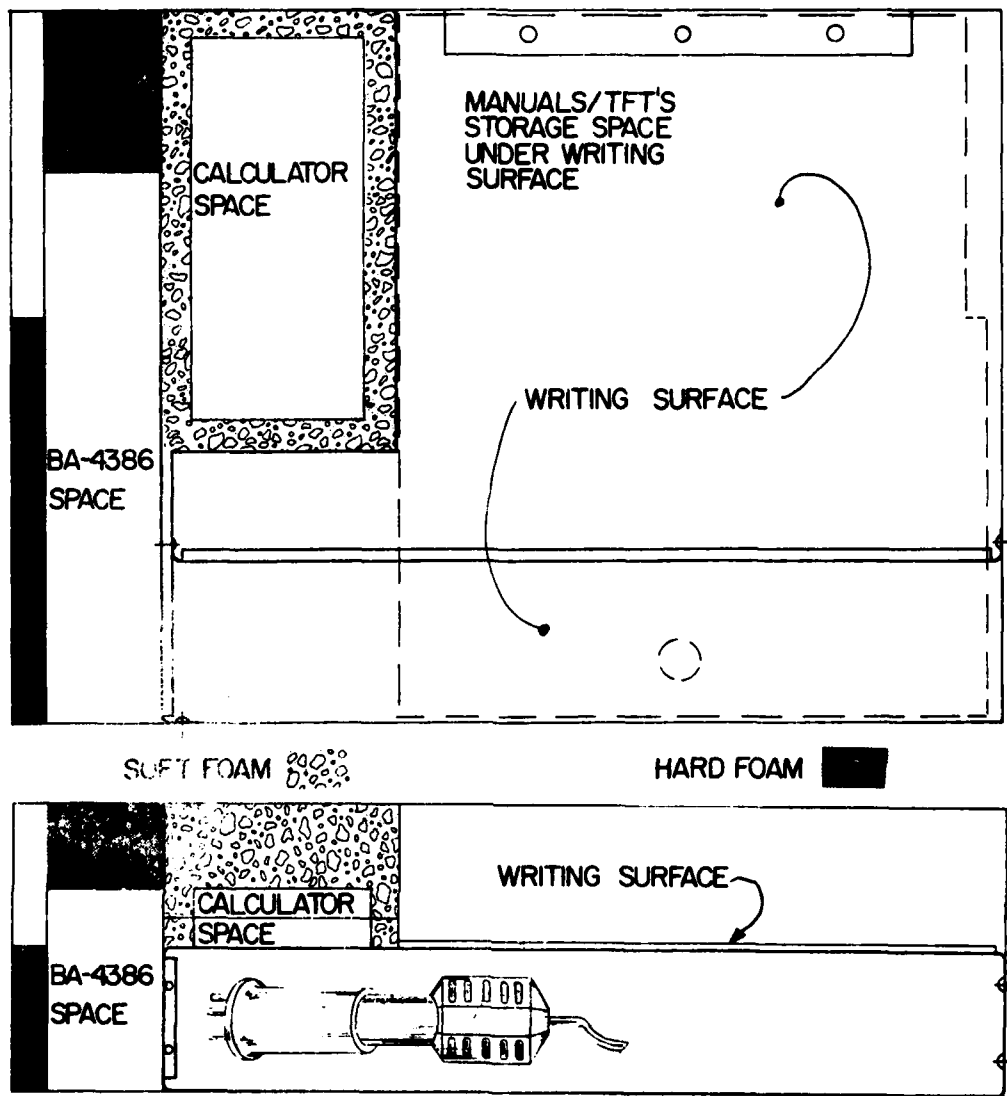

Figure 6. Carrying case for computer set, FA general.
b. Figure 6 is a design drawing of a Dispatch Case (NSN 8460-00-783-6726/cost \$10.50) modified to carry the computer (while charging) and its associated equipment-TFT addendums, BA-4386 battery and connectors. Modifications must be done by the unit or the local training aid support organization. The computer set should be inventoried frequently to insure accountability of the many small component parts.